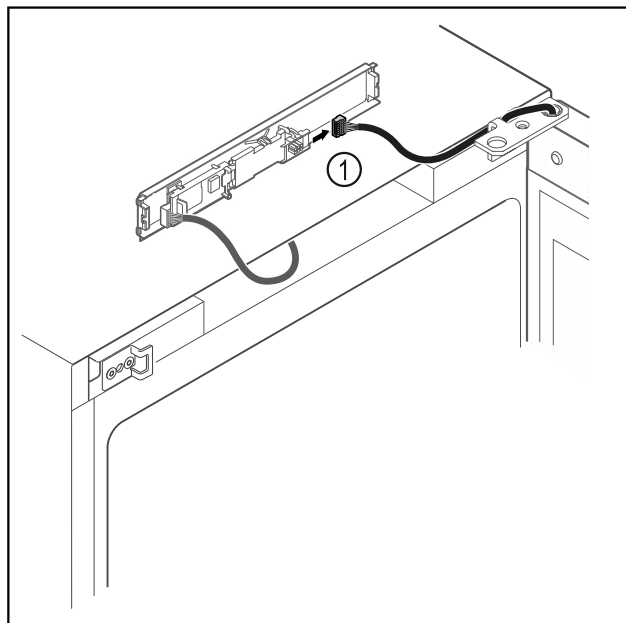

Fig. 8
- Disconnect the plug Fig. 8 (1) from the circuit board.